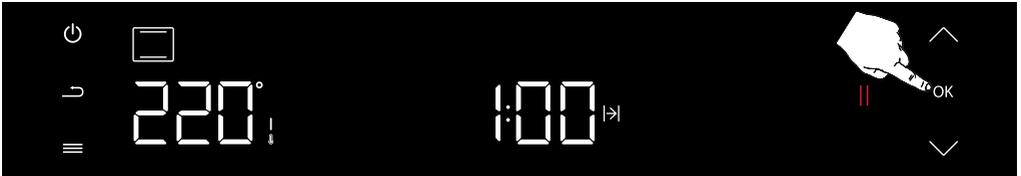

Figure 72
When the cooking function, cooking temperature and cooking time are set and cooking is active, long press the confirmation button (OK) and stop cooking. (see figure 72)